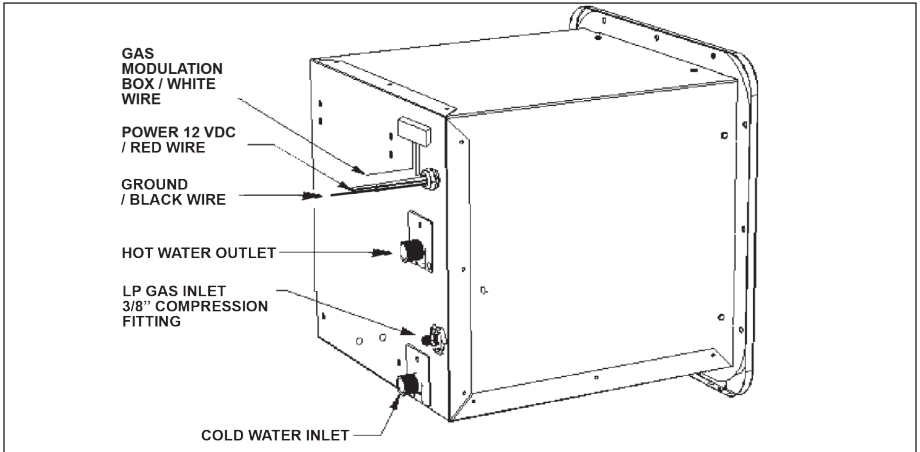

Figure 2
Partially insert the water heater into the opening and connect both Hot and Cold water lines to the appropriate 1/2" NPT fittings. Connections can be made using PEX swivel nut adaptors with NPS straight threads and a cone seal. The PEX swivel nuts require only hand tightening. (Figure 2, page 6).
Connect the gas to the 3/8" LP Gas compression fitting on the back of the Water Heater (Figure 2). **Use two wrenches to tighten the compression fitting to avoid damaging the unit.** Use additional caulking if needed to complete a permanent seal of the gas line with the housing.
- The length of the external wires, those wires extending beyond the strain relief from the rear of the housing (Figure 2), must NOT be shortened for any reason. Shortening these wires will prevent the removal of the Control Housing during servicing and/or testing.